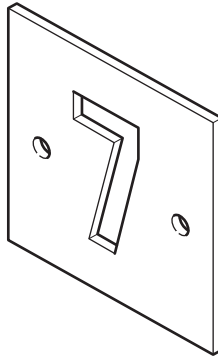

Fig. 5
- 4 Fig. 5 shows a door number plate that has been made from acrylic sheet 125 × 125 × 5.
(b) State **two** advantages of using a CNC laser to cut out the number plate shown in Fig. 5.